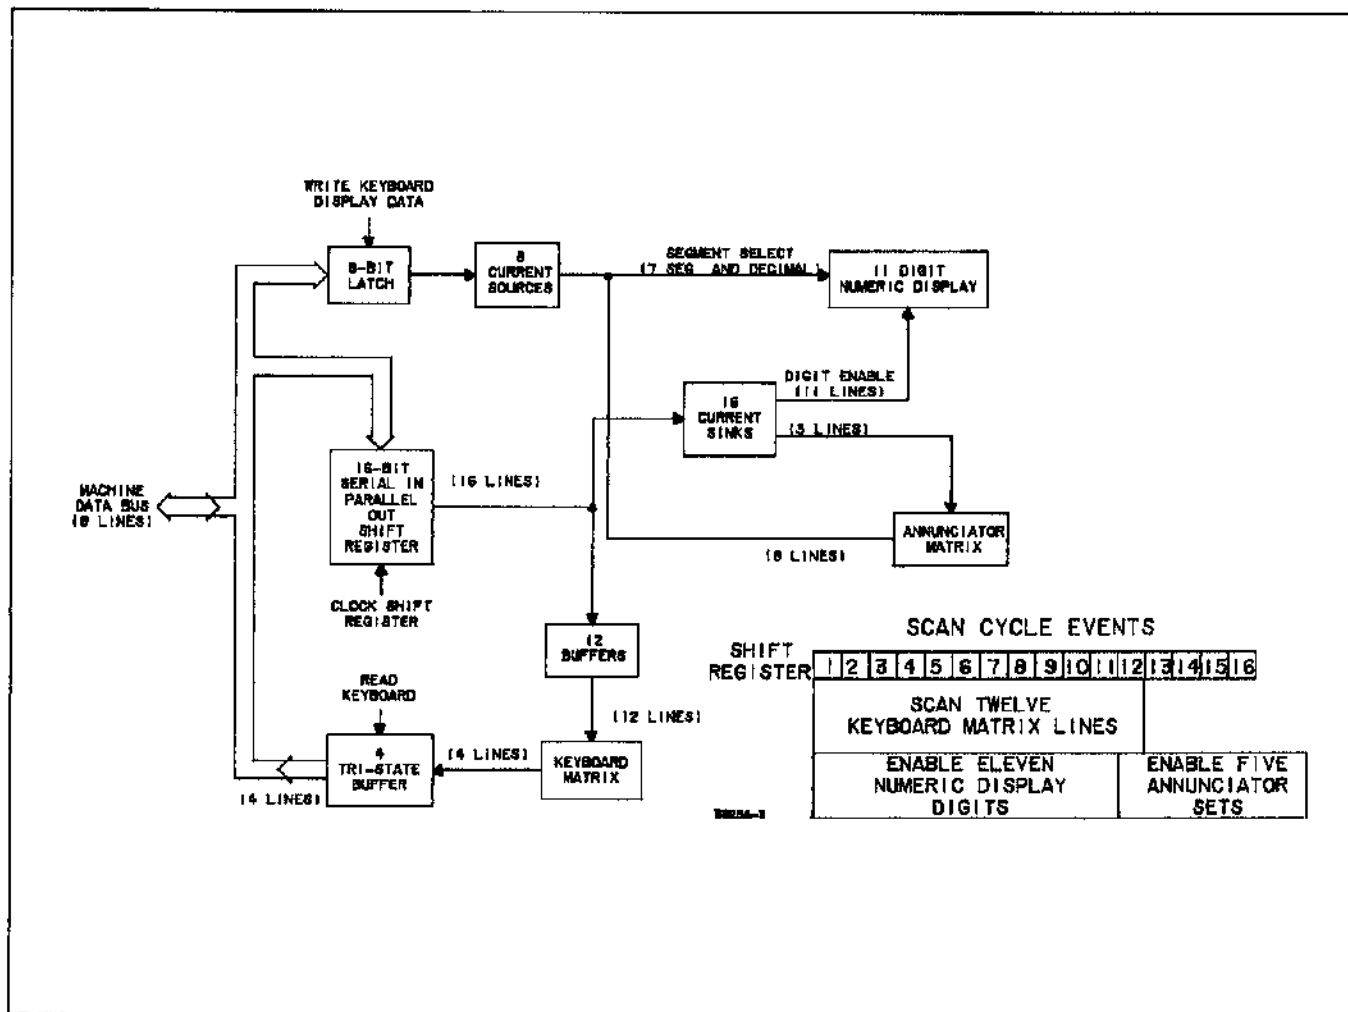

Figure 8-3. Keyboard and Display Block Diagram.
8-8. **Keyboard Scan.** Figure 8-3 is a block diagram of the Keyboard and Display circuits. To determine if a key has been pressed, a single high bit is shifted into the first position of the 16-bit register, and the four-line output of the keyboard matrix is read onto the machine data bus by the Read Keyboard clock signal. The high bit is then shifted one position in the register and the keyboard matrix output is read again. This process is repeated through the twelve input lines to the matrix. The high input bit is inverted by the keyboard buffers. A low level on one of the four matrix output lines indicates that a key has been pressed, and the control circuits initiate the proper action. After a low level has been detected, the control circuits look for a high level from the same key before the same action can be repeated. In other words, if the 5 key has been pressed, only one 5 will be processed even though the key is held through more than one keyboard scan cycle.
**8-11. Scan Cycle.** Approximately 21 milliseconds are required for a complete scan of the Keyboard and Display. During each scan cycle, the events shown in Figure 8-3 happen concurrently.